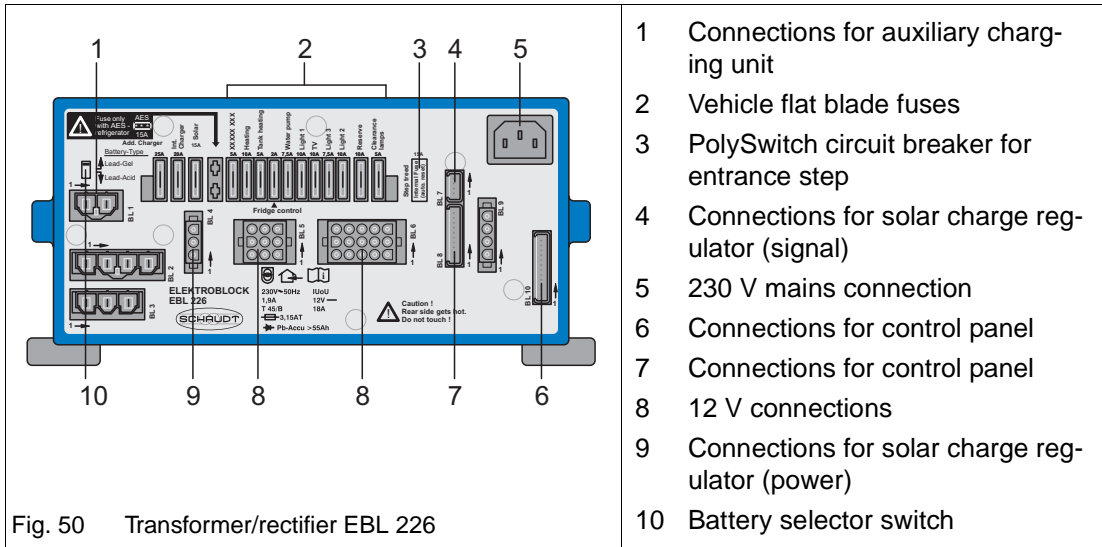
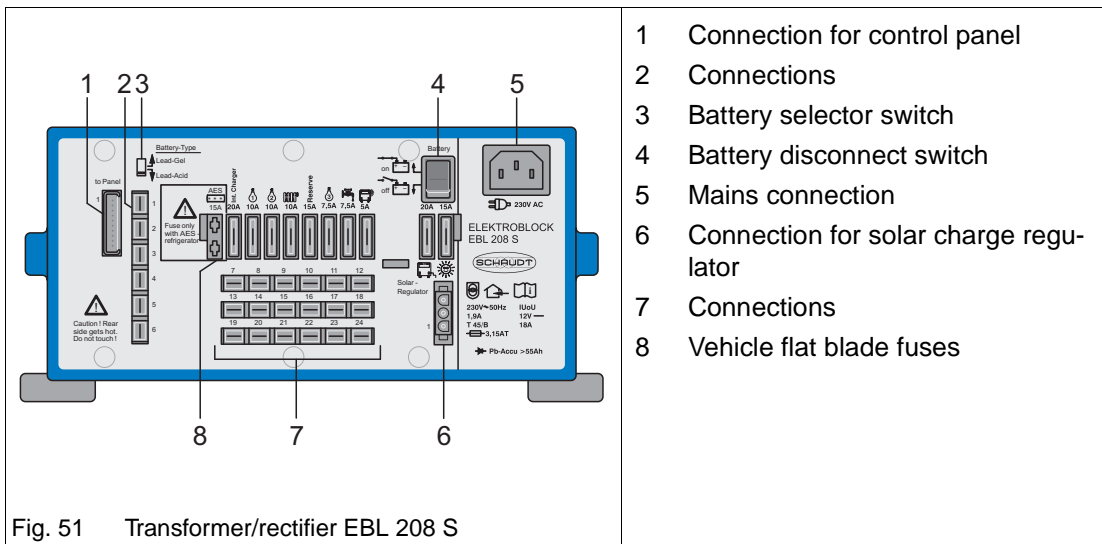

Fig. 50 Transformer/rectifier EBL 226
Fig. 51 Transformer/rectifier EBL 208 S
- ➔ Check the battery selector switch (Fig. 50/10) or (Fig. 51/3) is in the correct position.
- The flat blade fuses (Fig. 51/8) protect the different electric circuits. If required, remove the blue cover with the designation "FUSE" (optional) and check or replace all fuses.
The battery disconnect switch (Fig. 51/4) disconnects the following connections from the living area battery:
The batteries can still be charged by the transformer/rectifier, the generator or the solar charge regulator (special accessory) (Fig. 51/6) when the battery disconnect switch (Fig. 51/4) is switched off.
- The entrance step is protected with a self-resetting PolySwitch circuit breaker (Fig. 50/2).
- Setting the battery selector switch (Fig. 50/10) or (Fig. 51/3) to the wrong position can damage the living area battery.
- Disconnect the transformer/rectifier from the mains before setting the battery selector switch (Fig. 50/10) or (Fig. 51/3) to a different position.